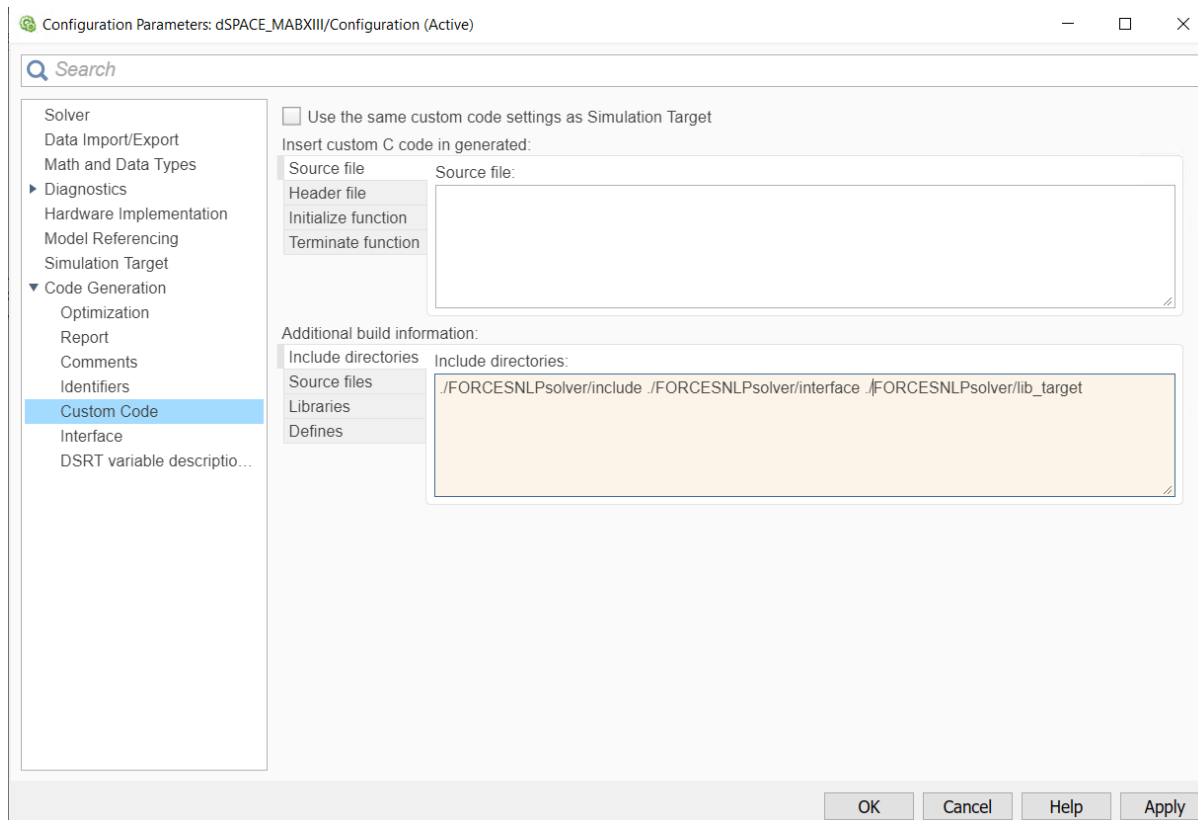

Figure 12.66: Add the directories included for the code generation.
- 10) In the "Code Generation/Custom Code" tab, include the directories (see Figure 12.66):